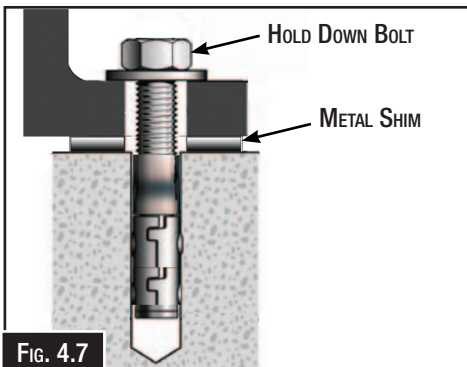

FIG. 4.7
After your machine has been anchored to a concrete slab floor, it then needs to be levelled. Loosen the hold down bolts and place a level on the surface of the working table. Metal shims need to be placed under the corner of the base of the machine until level. Once level then tighten the hold down bolts. (Fig. 4.7).
*The machine must not rest on supports other than those defined in Fig. 4.7*